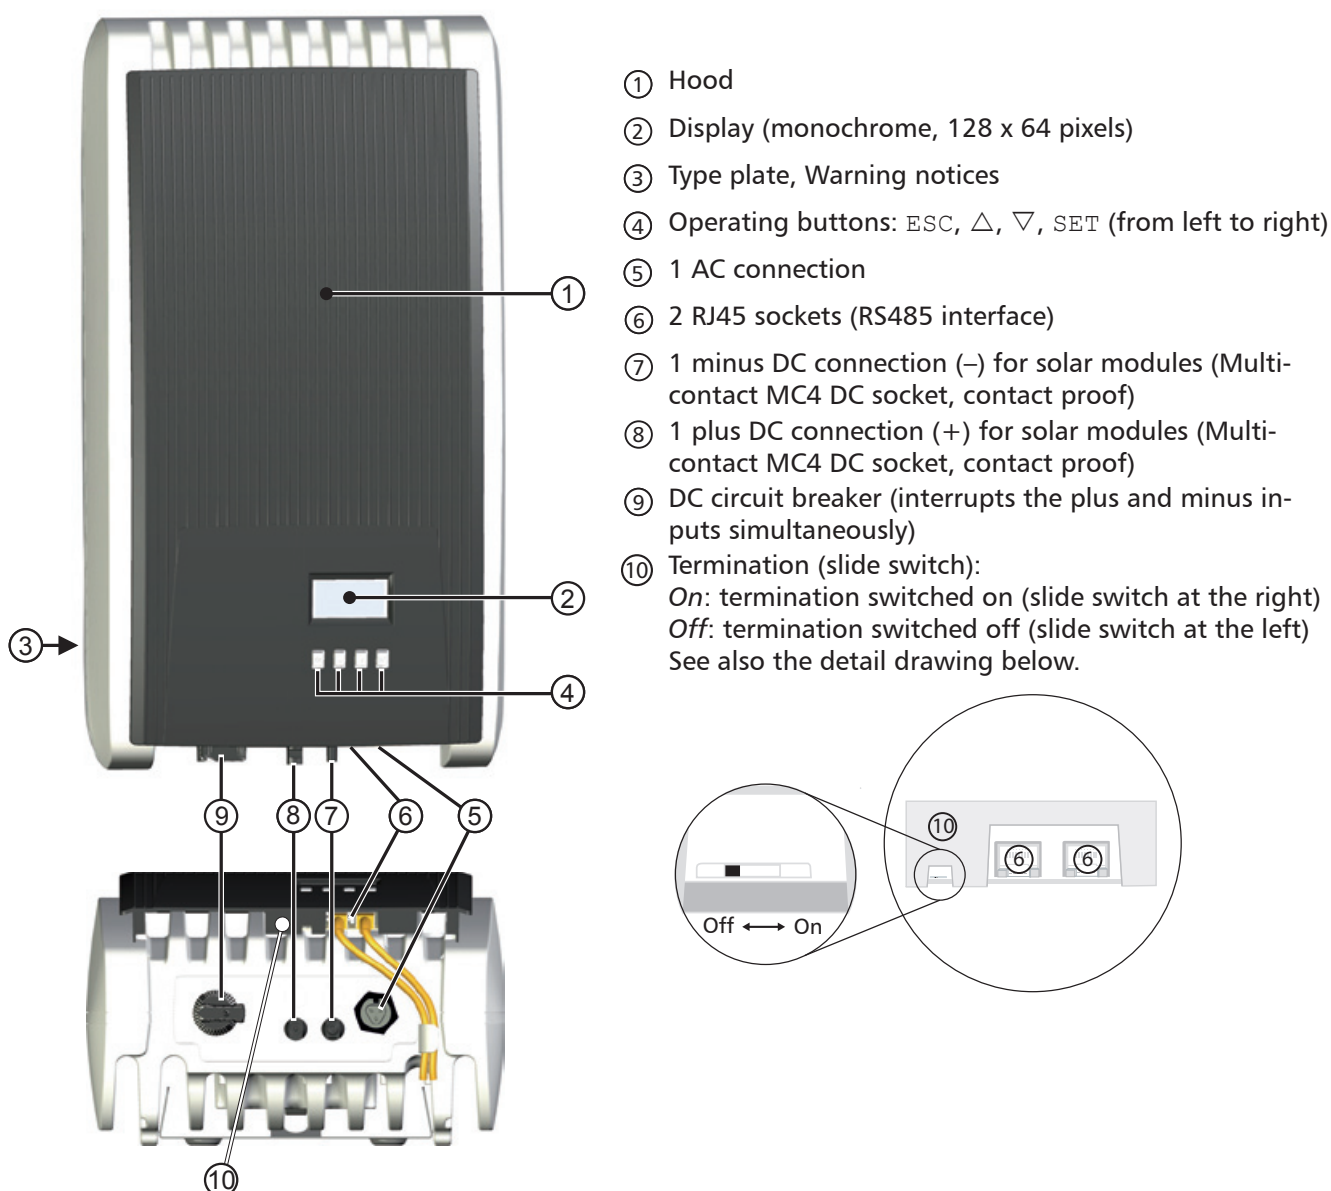

Fig. 5: Components on the front and lower sides of the casing
Position of the type plate: see Fig. 5, p. 47.
The operating buttons (④ in Fig. 5) have the following functions:
For information shown in the display (② in Fig. 5) the following generally applies: